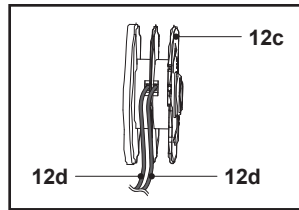

Fig. 27
5. Lead one end of the new trimming lines (12d) through the small eyelet on the trimming spool (12c) in direction of the arrows (Fig. 27).